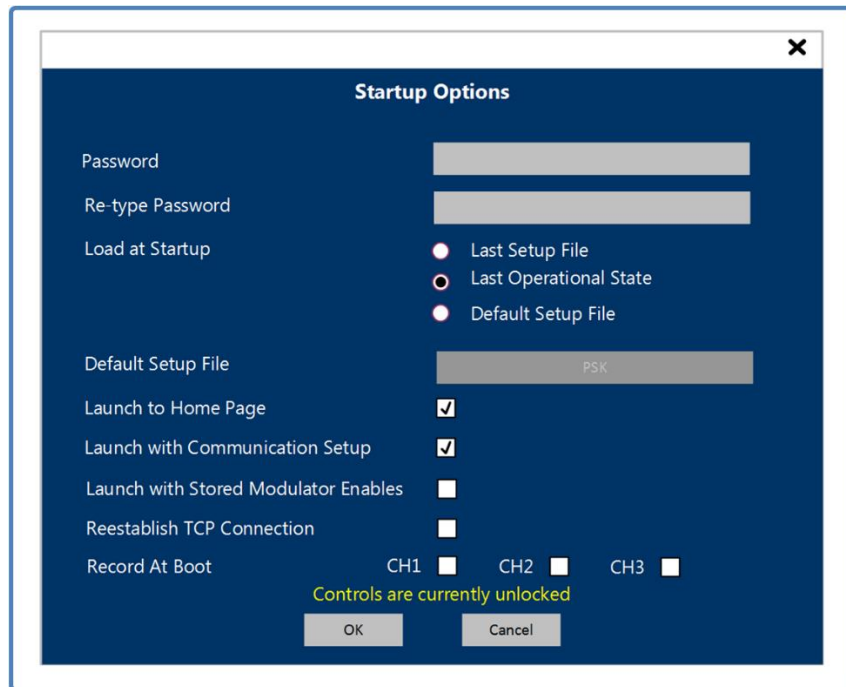

Figure 4-11 Options – Startup Options Dialog Window
- ii. *Startup* – The LS-28-DRSM provides a means for the user to set certain launch criteria related to the user network application. Refer to Figure 4-11. The criteria include the type of file to load at initialization, whether the user desires a full network scan at each application start, and whether the user always would like to launch to the primary HOME tab. Use of this dialog box is password protected. At each launch of the application, a password will need to be entered to change any of these settings. Once entered, the password will keep the menu option unlocked for the duration the application is active.